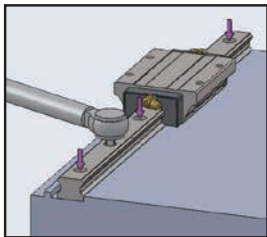

Fig 1.11.10 Full Tightening of Mounting Bolts
(D) Using a torque wrench, tightening the mounting bolts to the specific torque.(fig 1.11.10)
(D) Using a torque wrench, tightening the mounting bolts to the specified torque.(fig 1.11.10)